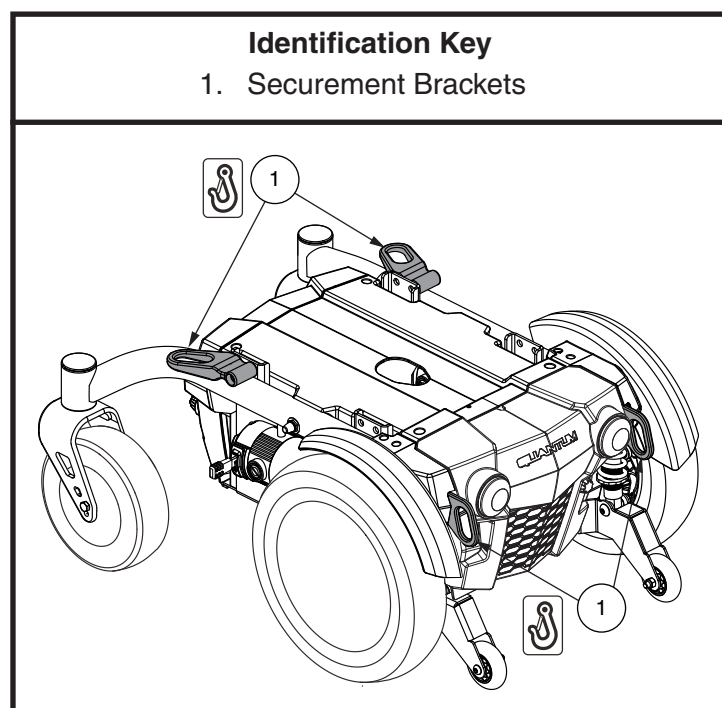

Figure 9. Transit System Securement Brackets
If your power chair is equipped with a transit securement system, it is equipped with manufacturer-installed front and rear securement brackets and may be equipped with positioning belt anchoring brackets. **See figure 9.** Refer to the supplement provided with your power chair for information on how to use the transit securement system.
- Attach the four tie-down straps to only designated, labeled transit securement points indicated by anchor symbols on the power chair. **See figures 9 and 10.** Tighten the straps to sufficiently remove all slack.